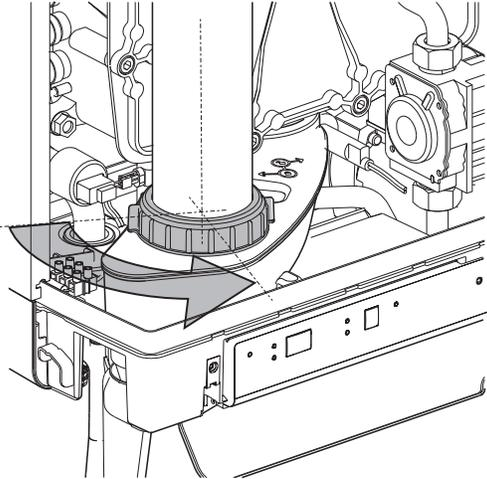

Fig. 23: Loosening of Flue Pipe Retaining Ring
1. Loosen the flue pipe retaining ring as shown in Fig. 23, page 63.